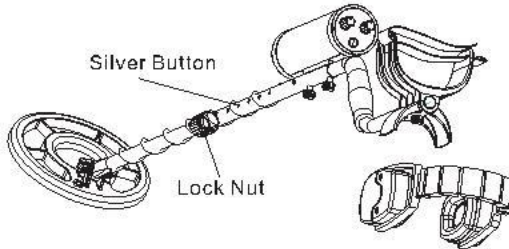

Fig.6
6. Relax the Lock Nut on the middle stem. According to need, the operator can adjust the length of the aluminum rod, by aligning the silver button on the lower stem into a group of holes on the middle stem. Wrap the cable around the aluminium stem, tighten moderately, so that the cable does not shake (see Fig.6). Tighten the lock nut.